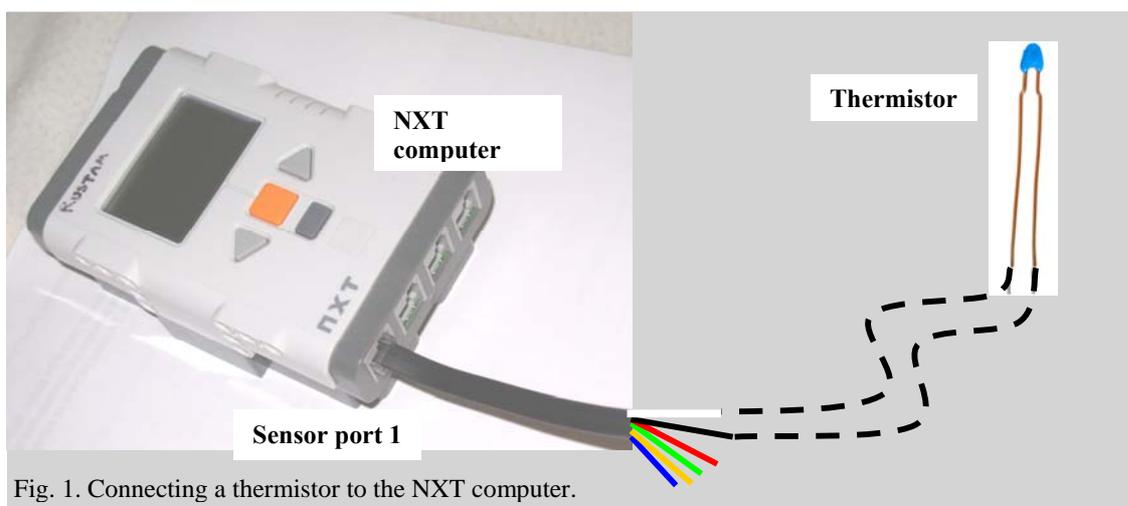

Fig. 1. Connecting a thermistor to the NXT computer.
- 3) Once you have completed the soldering, you can then plug the connector cable into sensor port 1 on the NXT (see fig. 1). **Do not solder the wire while it is still connected to the NXT – the internal circuits could be damaged by heat.**